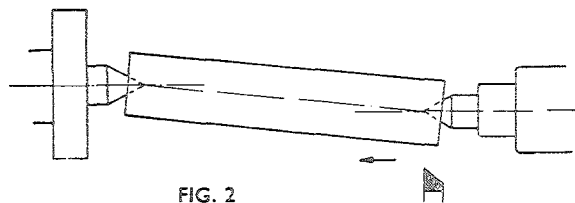

FIG. 2.
(2) The method shown in fig. 2 is by off-setting the tailstock centre. The drawback is that the centre points are not on the axis of the work, so that the centres are subjected to uneven wear and strain. Thus the method is limited to slow tapers on long work.